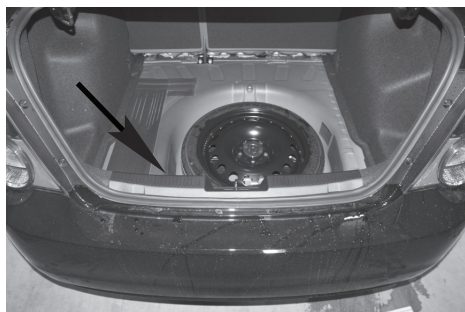

Figure 1
2. Open trunk and remove spare tire floor cover and set to the side. To remove threshold plate remove four push pins located on front of threshold plate shown in **Figure 1** by pushing in the centers and then removing. Pull up on threshold to remove and set to the side.